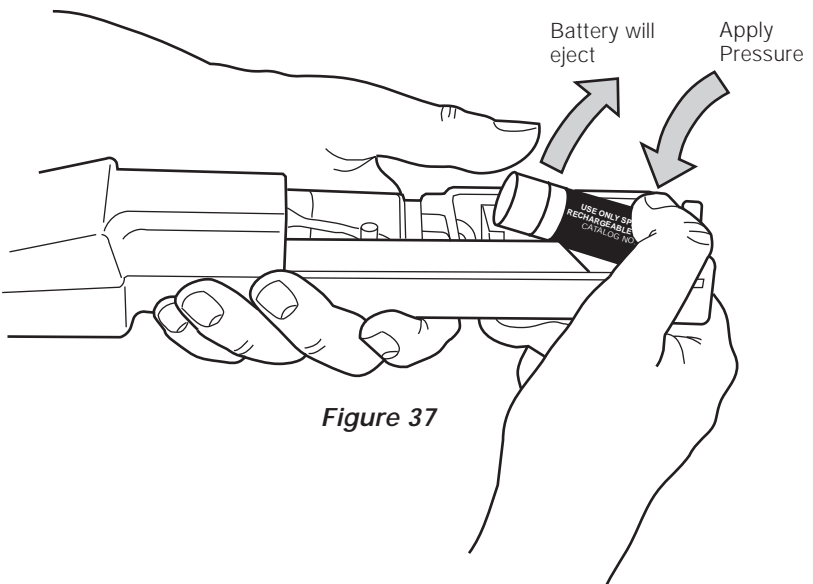

Figure 37
4. Push down on the positive (+) end of the battery. Battery will eject. See **Figure 37**.